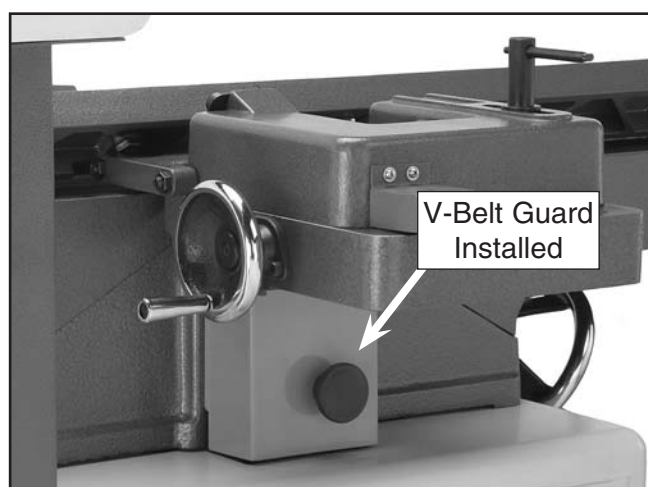

Figure 7. V-belt guard installed.
8. Replace the access cover on the stand and the V-belt cover on the jointer (**Figure 7**).